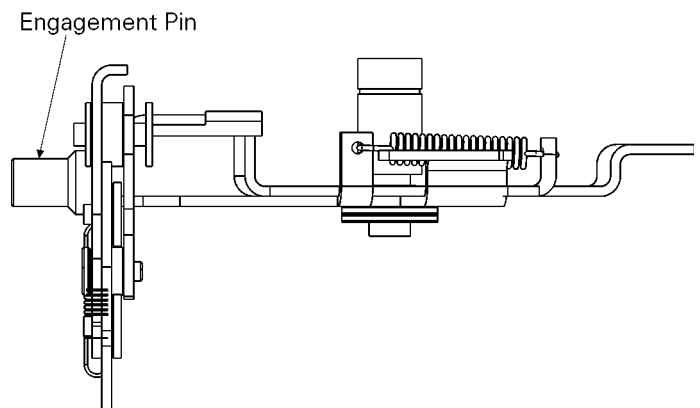

Figure 8-3. Top view of the bell alarm mounting plate, showing the breaker mechanism engagement pin.
1. Place the bell alarm mounting plate over the standoff and secure with a washer and nut. Insert the long bolt, with two washers, through the pivot on the mounting plate and screw it into the tapped hole in the front plate of the breaker. Ensure that the engagement pin on the side of the mounting plate, also shown in the top view in Figure 8-3, fits into the slot in the breaker mechanism.